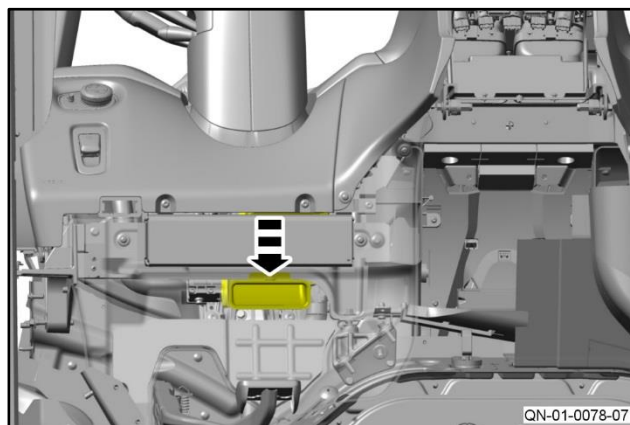

Figure 5
5. Move the vent duct to it's original position (refer to Figure 5).